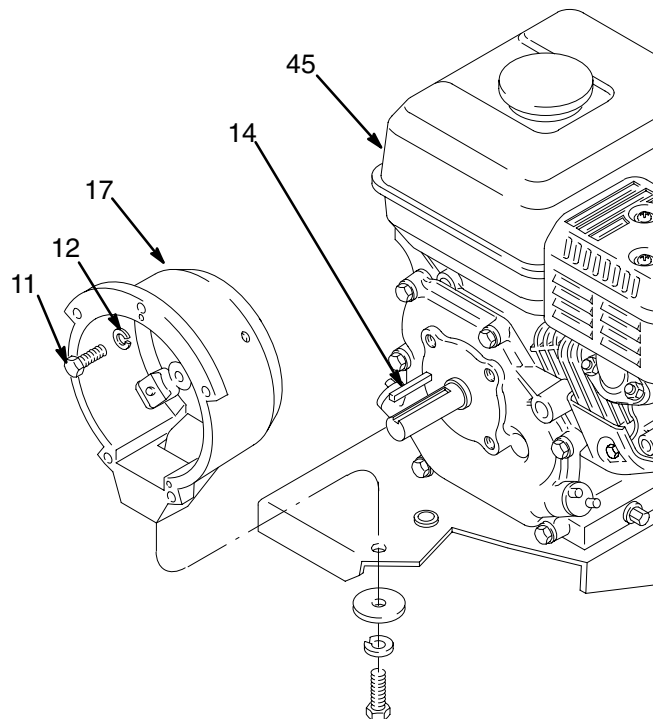

Fig. 26
**NOTE:** Refer to Fig. 26.
1. Remove the capscrews (11) and lockwashers (12) which hold the clutch housing (17) to the engine (45).
2. Remove the engine key (14).
3. Pull off the clutch housing (17).